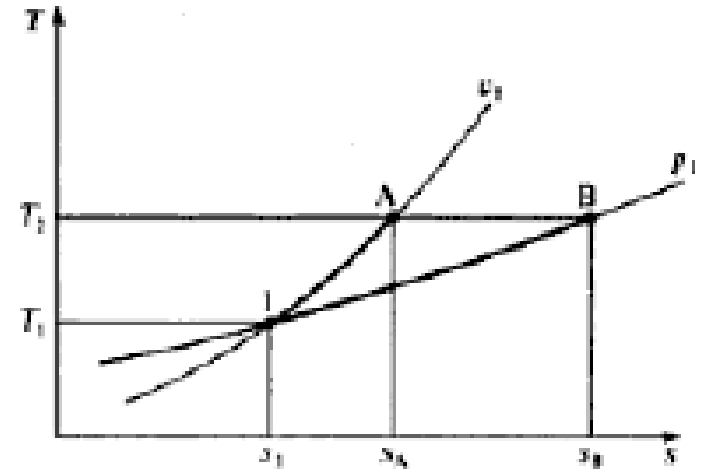

Fig. 4.9: Entropy changes at constant pressure and at constant volume for a perfect gas on a T-s diagram
- In Fig. 4.9 the pressure line  $p_1$  and the volume line  $v_1$  have been drawn passing through the state point 1. Note that a line of constant pressure slopes less steeply than a line of constant volume.